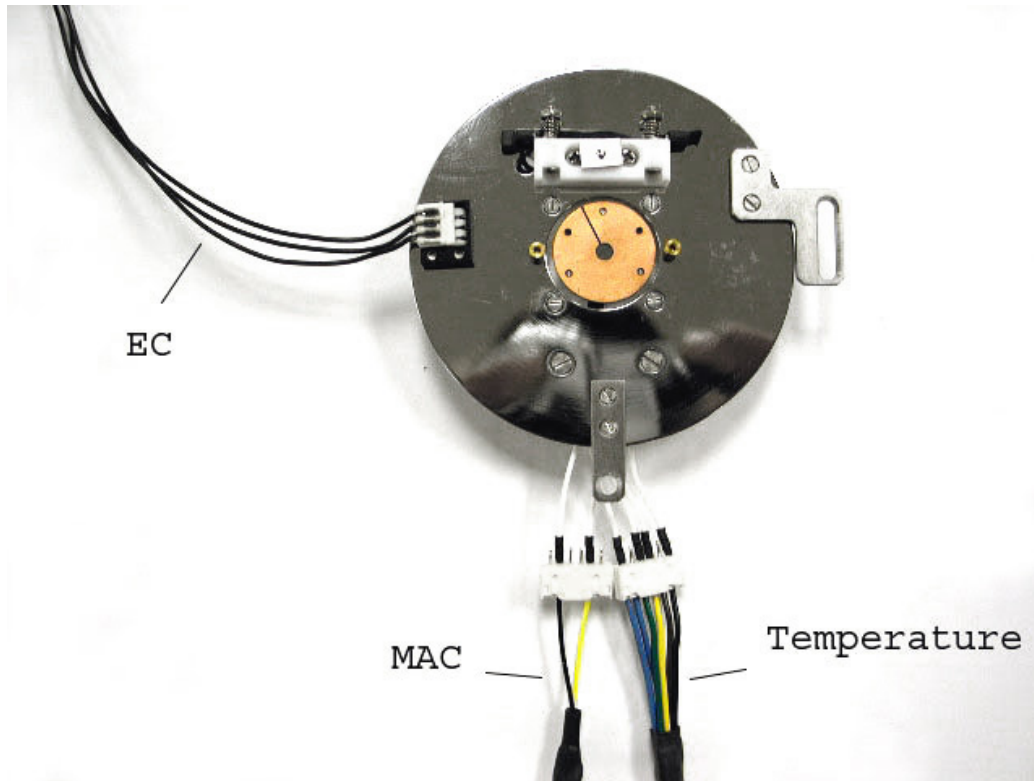

Figure 4 (Top view of hot MAC sample plate connections)
5. Plug the flat 6-pin female connector from the short cable into the 6-pin male connector on the bottom of the hot stage. In order to use a heated stage with MAC mode operation, see Figure 4 below for hot MAC sample stage connections.